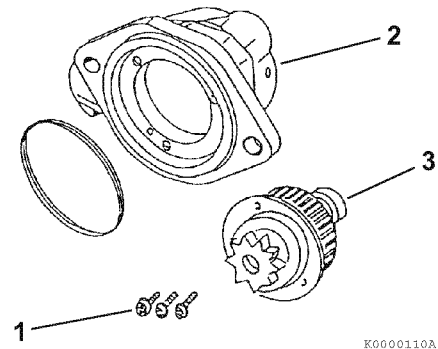

Figure 11-9
9. Remove the three M4 bolts **(Figure 11-9, (1))** securing the bearing retainer assembly **(Figure 11-9, (2))** to the gear housing. Remove the bearing retainer assembly from the gear housing.
10. Remove the pinion clutch assembly (Figure 11-9, (3)) from the bearing retainer assembly.